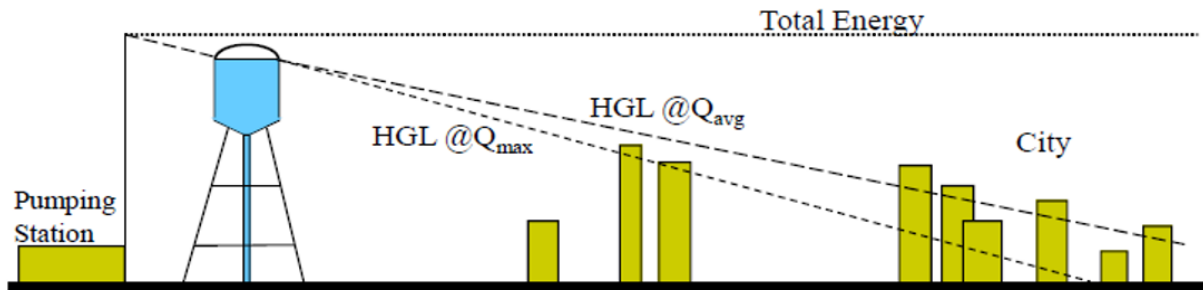

Figure 1: Scenario 1
5. (a) The following **Figure 1** and **Figure 2** show two different scenarios of a water supply system. Elaborate the scenarios with respect to the hydraulic gradient line, energy line and the available consumer head.